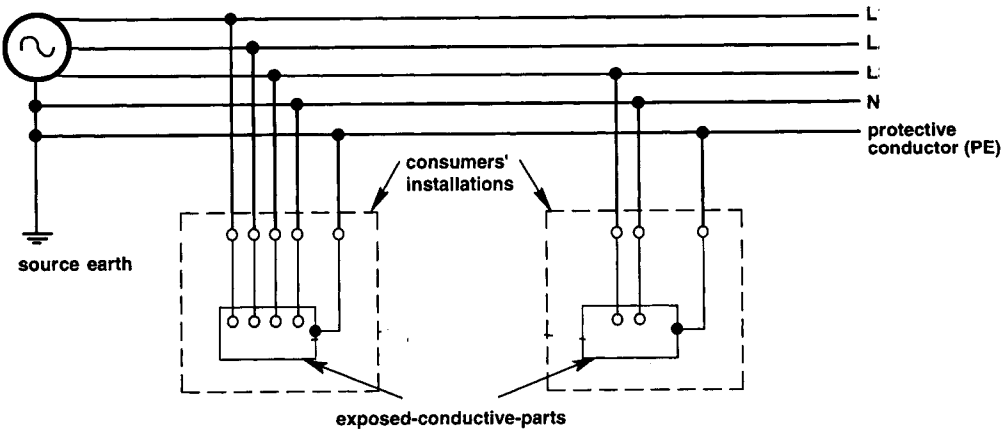

Fig A-2 – TN-S system
**TN-S system:** One pole of the supply system is connected to one or more electrodes buried in the ground. This pole is connected to the neutral conductor of the distribution cables, and also connected to a protective conductor in the distribution cables, which is used to 'earth' exposed conductive parts of a load installation. The neutral and protective conductors are insulated from each other in the distribution network and in load installations. (Figure A-2)